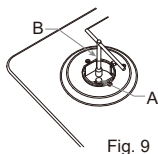

Fig. 9
2. Remove burner components "B" and pan supports (Fig. 9).
3. Remove the injectors "A" (Fig. 9) with a socket spanner and replace with the corresponding injectors.